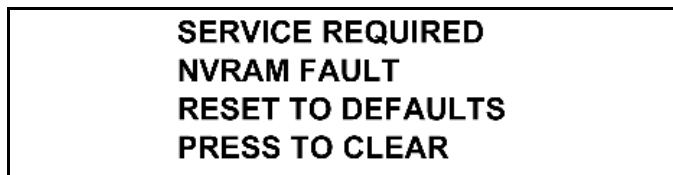

Figure 2-124
4. During the program initialization, (Language, System Data, Config Data, Lockout Data) the RESET TO DEFAULTS message will display on the screen. (See Figure 2-124.)